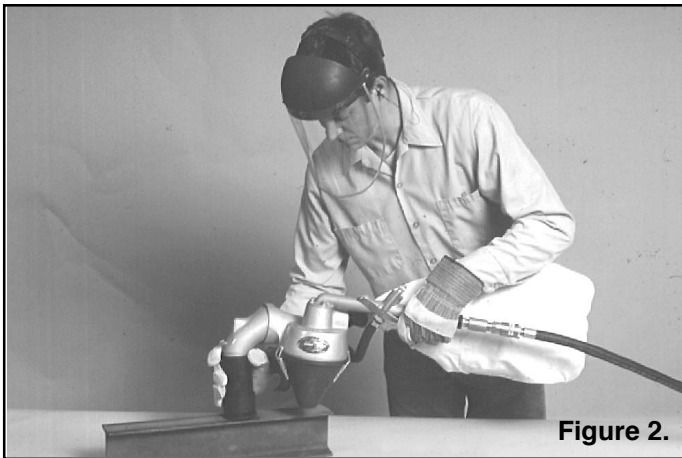

Figure 2.
3.1 Handling the tool. Grip the valve handle with one hand and the adaptor boot with the other as shown in figure 2. The main body of the tool must remain more or less upright, with the abrasive container pointing downward. The Educt-O-Matic has a swivel blast head which permits blasting in any direction (up, down, sideways) without rotating the main body. Hold the adaptor boot firmly against the surface being blasted to insure a proper seal and prevent abrasive from escaping.